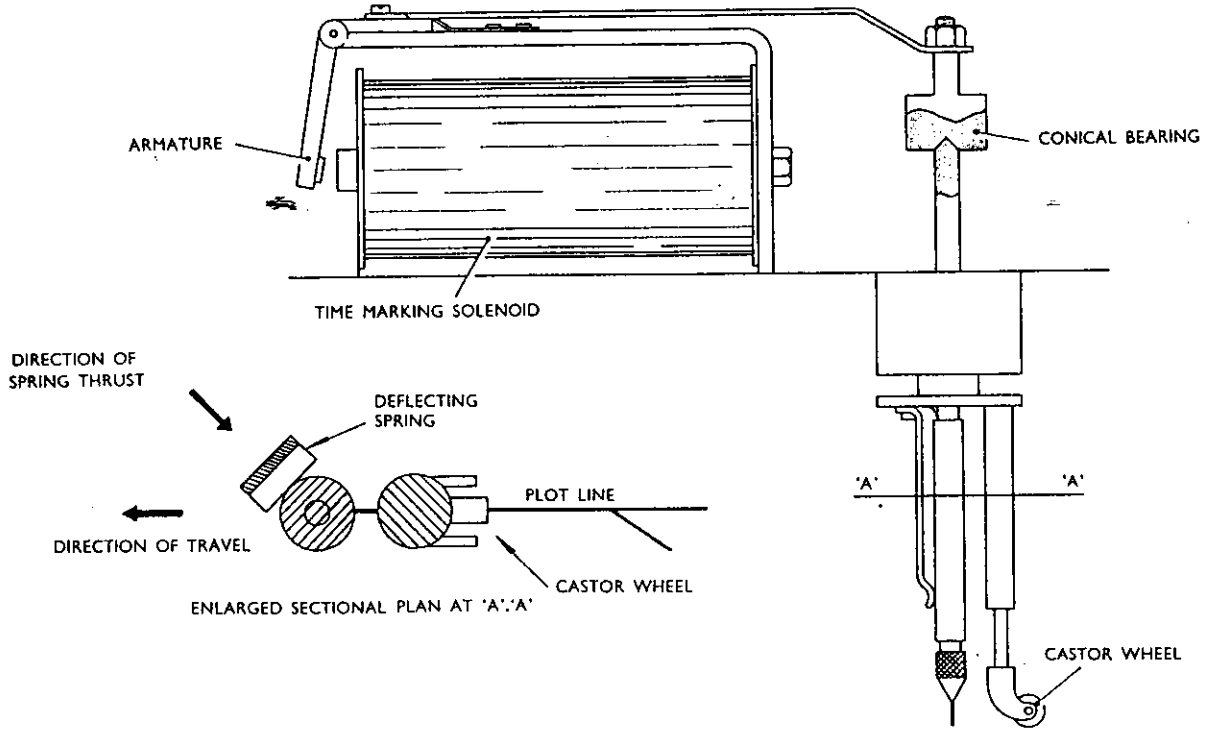

Fig. 5.1 Plotting tables Mks. 6 to 9* - Pencil unit
12. The operation of the time marking arrangement is shown in Figure 5.1. When the circuit for the time marking solenoid is completed by the clock contact, the movement of the armature lifts the conical bearing of the pencil carrier, so giving the carrier a small freedom of movement. A spring then deflects the pencil which marks a short line at an angle to the pencil plot. When the solenoid is de-energised, a spring returns the conical bearing to its original position and the pencil is re-centred. A small castor wheel trails on the chart orientating the spring which deflects the pencil so that the time mark made on the plot also indicates the direction in which the ship is travelling.